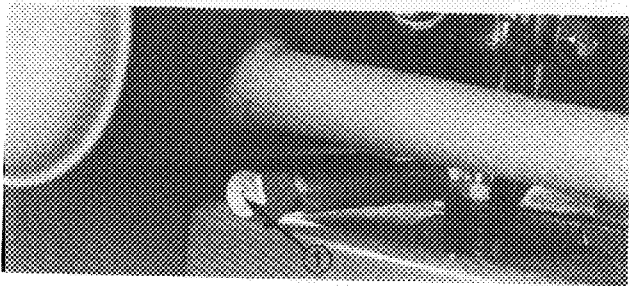

Figure 20
- b. Turn engine off and place drain pan under frame, below drain plug (Fig. 20). Remove drain plug and allow all oil to flow into drain pan. Install drain plug after oil stops flowing.